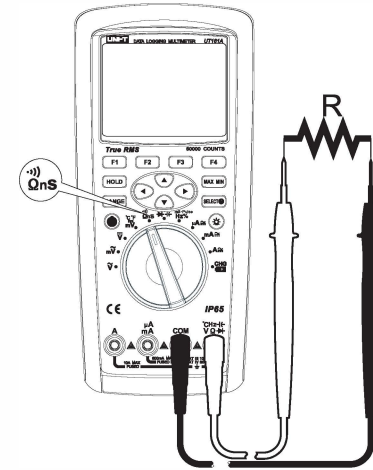

Figure 8
- 2) Set the rotary switch to the measurement  $\Omega$  nS  $\rightarrow$ ), and current  $\Omega$  is the default resistance measurement as shown in Figure 8. Connect the test leads to both ends of the measured resistance.
- 2) Set the rotary switch to the measurement  $\Omega_{nS}$  . press the key SELECT to select conductance measurement 60nS. Connect the test leads to both ends of the measured resistance as shown in Figure 8.
- 2) Set the rotary switch to the measurement  $\Omega$  (ns), press the key SELECT to select the continuity test (⊞). Connect the test leads to both ends of the measured resistance as shown in Figure 8. Press the function key MENU (Menu) to enter the menu items. If pressing the key SHORT (Menu), then the buzzer selects